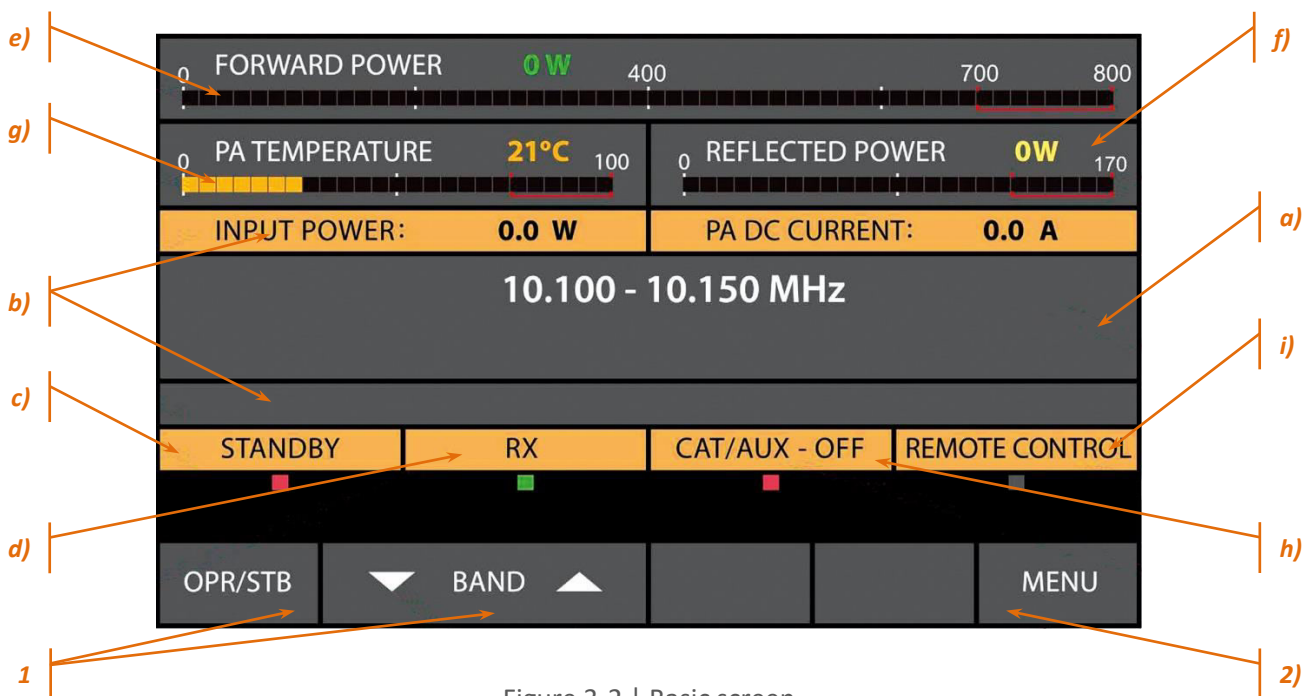

Figure 3-2 | Basic screen
In order to start up the amplifier, push and hold the front panel **POWER** button for one or two seconds. About ten seconds later (boot sequence) the display will flash and show the basic screen with the amplifier information (see Figure 3-2 | Basic screen).
Please, see **Figure 3-2 | Basic screen**, Pos. (a).
Please, see **Figure 3-2 | Basic screen**, Pos. (b).
Please, see Figure 3-2 | Basic screen, Pos. (c).
Please, see Figure 3-2 | Basic screen, Pos. (d).
Please, see Figure 3-2 | Basic screen, Pos. (e).
Please, see Figure 3-2 | Basic screen, Pos. (f).
Please, see Figure 3-2 | Basic screen, Pos. (g).
Please, see Figure 3-2 | Basic screen, Pos. (h).
Please, see Figure 3-2 | Basic screen, Pos. (i).
Please, see Figure 3-2 | Basic screen, Pos. (1):
Please, see Figure 3-2 | Basic screen), Pos. (2).
Turn the amplifier on, as described in Sections 3.1 Low Energy STANDBY Mode of the Power Supply, 3.2 Front Panel, 3.3 Initial Turning On and 3.4 Basic Screen (see Figure 3-2 | Basic screen).